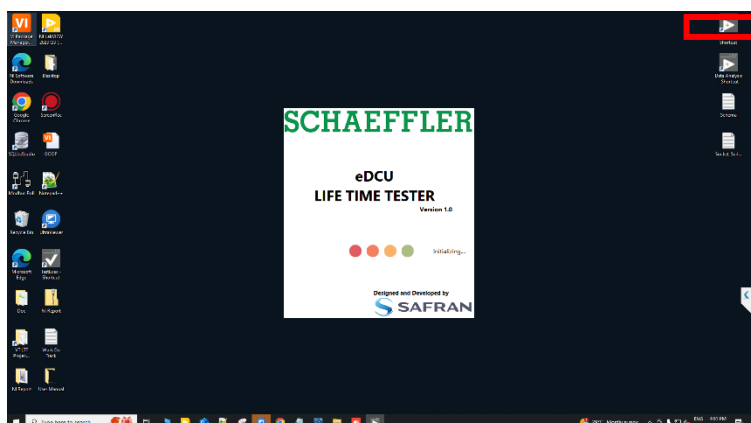

Figure 14: Lifetime Tester Splash Screen
- Splash screen figure 14 appears in the desktop for few seconds.